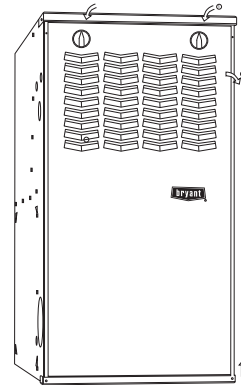

Fig. 7 - Remove Furnace Door
5. Turn the switch on the gas control to the OFF position. (See Fig. 7.)